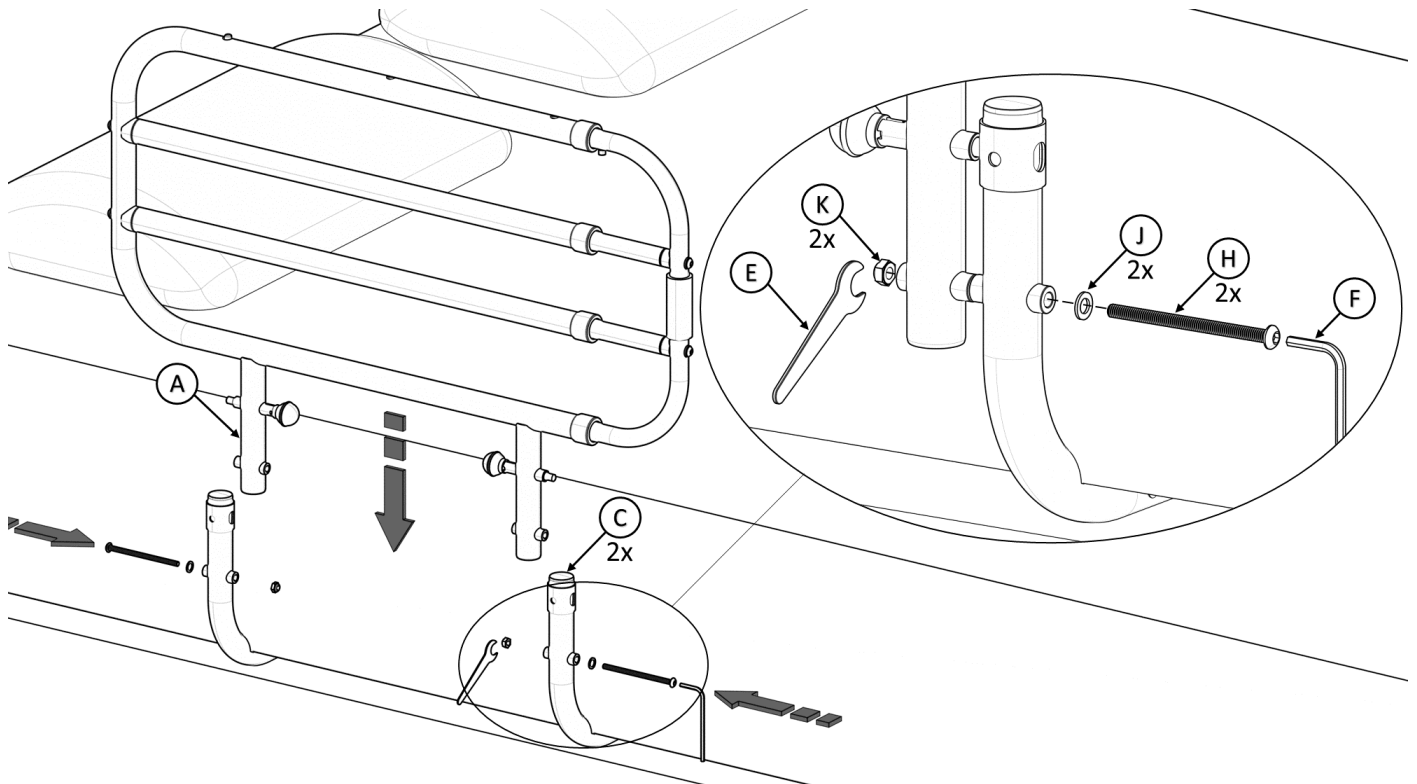

FIGURE 4
4. Align holes in **A** between the holes in **C** as shown in *FIGURE 4*. Place **J** over hole and insert **H**, mate with **K** on the opposite end and secure with tools provided (**E** and **F**).